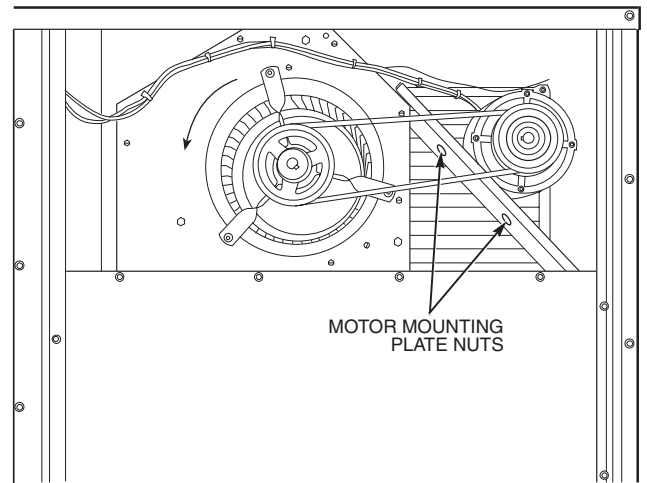

Fig. 37 — Typical Belt-Drive Motor Mounting for Size 090
2. Loosen belt by loosening fan motor mounting nuts. See Fig. 37 and 38.
2. *Size 090* — Slide motor mounting plate away from fan scroll for proper belt tension ($\frac{1}{2}$ -in. deflection with 8 to 10 lb of force) and tighten mounting nuts (see Fig. 37).